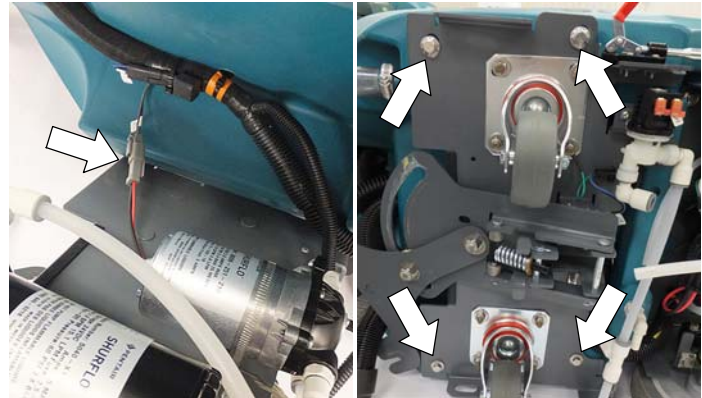

Fig. 10
8. Reconnect wire connector to e-H₂O pump and refasten machine frame (Figure 10).